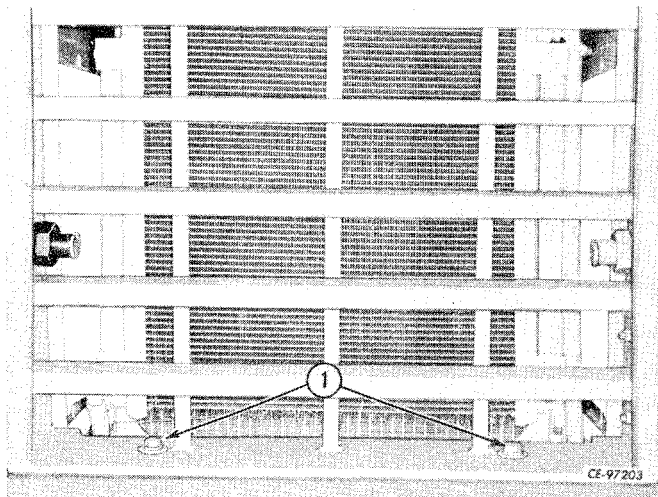

Figure 2-17
Remove cap screws and lock washers (1, Fig. 2-17) and remove grille (2).
Position grille (2) on frame and install and tighten cap screws (1, Fig. 2-17).